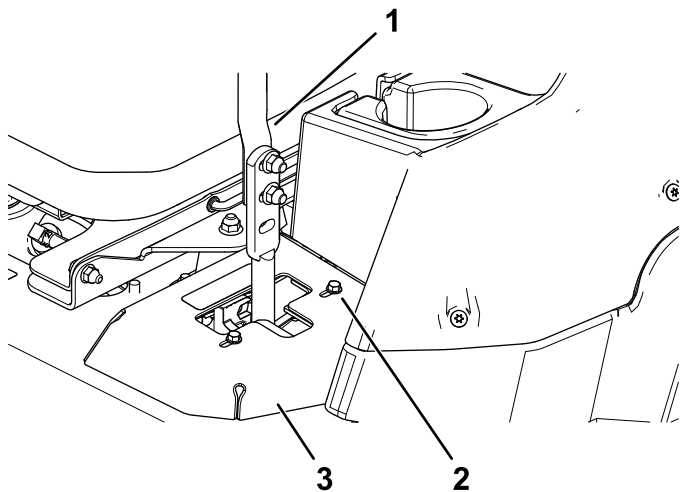

Figure 55
- If it tracks to the right, loosen the bolts and adjust the left stop plate rearward on the left T-slot until the machine tracks straight (Figure 55).
- If it tracks to the left, loosen the bolts and adjust the right stop plate rearward on the right T-slot until the machine tracks straight (Figure 55).
6. Tighten the stop plate (Figure 55).